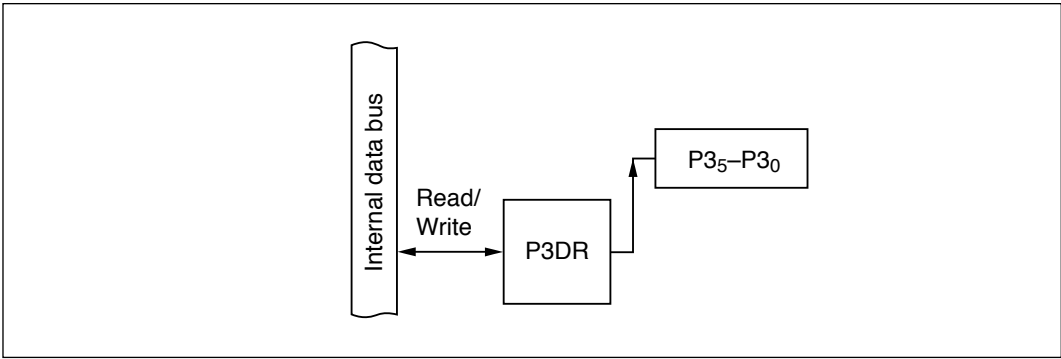

Figure 9-18 Output Port (Modes 1 to 7)
- (2) Output Port (Modes 1 to 7):** Figure 9-18 shows a block diagram illustrating the general-purpose output function. Table 9-12 indicates register read/write data. The value written in the port 3 data register (P3DR) is output at the pin. When read, P3DR returns the value written in P3DR.